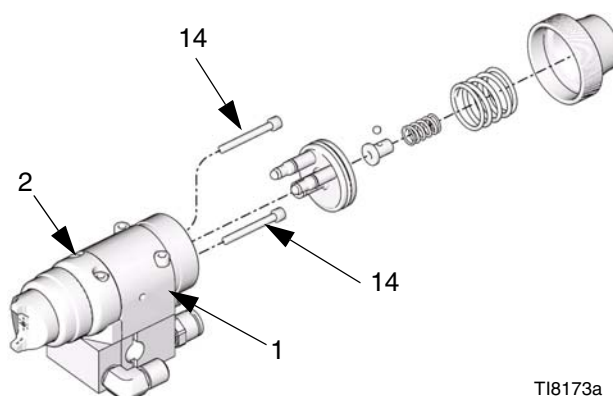

FIG. 21
9. Remove the piston. Using a pliers, pull the piston (3) out of the piston housing (1). See FIG. 21.
10. Unscrew the two screws (14) and separate the fluid housing (2) and the piston housing (1). Remove gasket (12) only if it needs to be replaced. See FIG. 21.